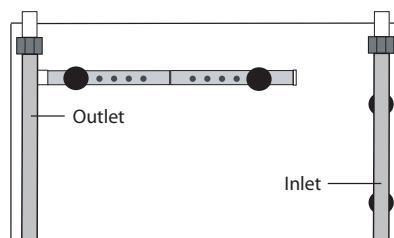

Fig 7
19. Place the Suction caps on the spray bar then attach it to the back or side of the aquarium. Fig 7